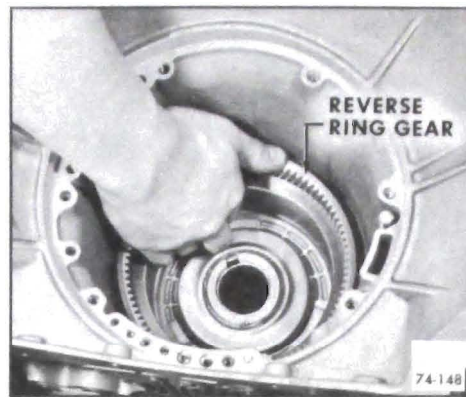

Figure 74-148
2. Remove reverse ring gear from case. See Figure 74-148.